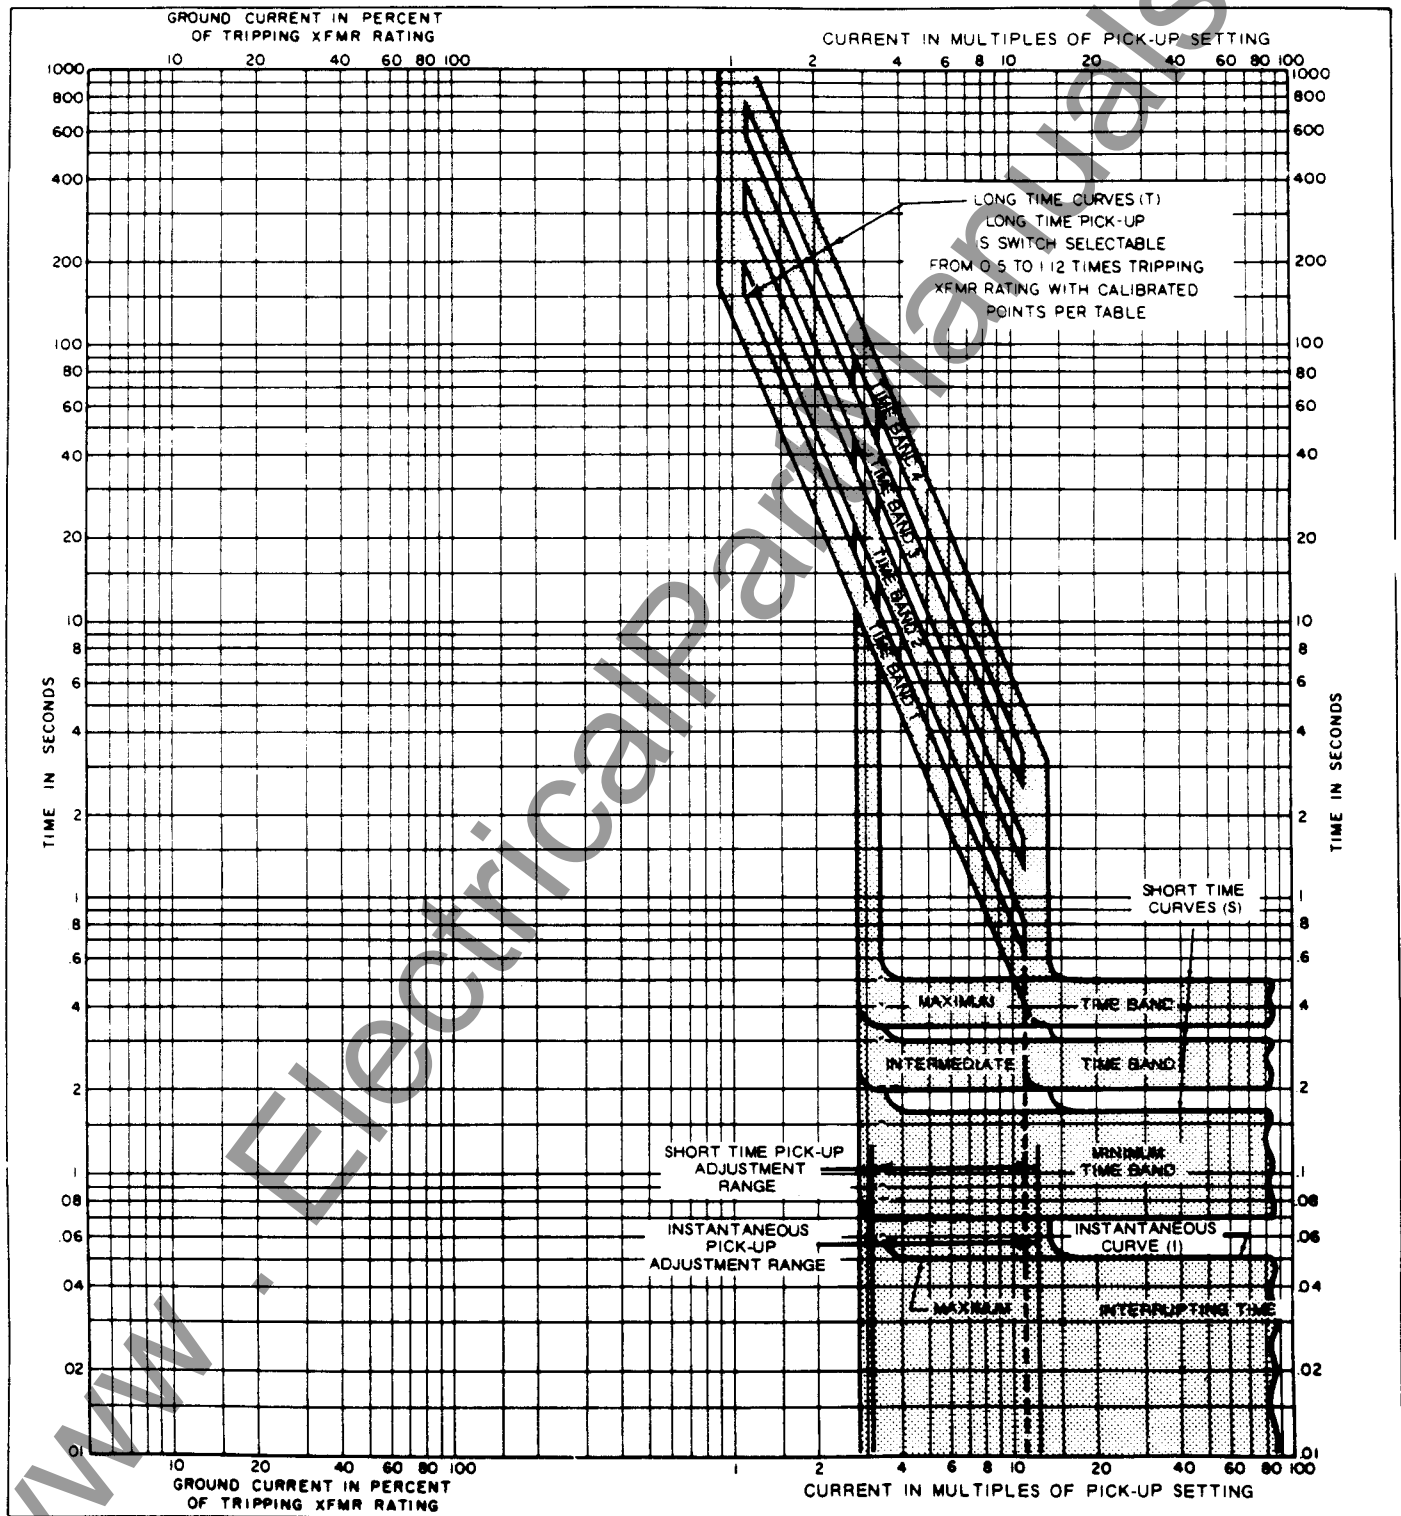

Figure 13. *LimiTrip*® Time/Current Curves
6. When the trip device operates, check the reading of the stop clock against the curves shown in Figure 13. The reading should be within the limits shown on the curve.
8. Repeat for the other phases, time delay bands and other values of current, as desired. All test points should fall within the bands shown on Figure 13. Each band should have precisely twice the delay of the next lower band when all other conditions are the same.
5. Press the START button, the delay on the stop clock should be 0.07 to 0.170 seconds. See Figure 13.
6. Repeat for "SHORT TIME BANDS" of "INTERMEDIATE" (Band 2) and "MAXIMUM" (Band 3). Compare with Figure 13. The other phases and different values of current can be tested if desired. Make current settings as quickly as possible to avoid overheating.